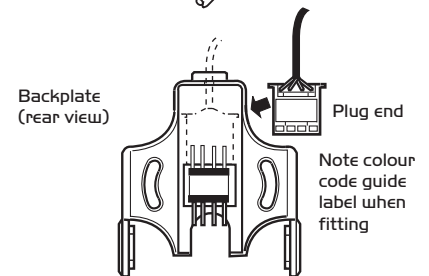

Figure 3.
e) Before fixing the backplate to the wall, connect the wall fixed cable end plug to the upper set of pins on the bracket (fig 3) **Note: check the colour code matching** on when fitting the plug onto the pins. Arrange the cable to lay in the cable slot at the top of the backplate moulding and fix the bracket to the wall surface using the screws supplied.